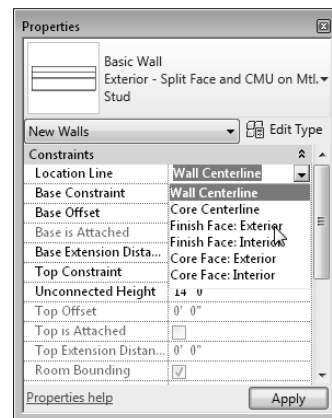

Figure 3-38 Selecting the **Finish Face : Exterior** option for the **Location Line** parameter
- Change the **Location Line** parameter to **Finish Face: Exterior**, refer to Figure 3-38.
- Click in the value field of the **Location Line** parameter and select the **Finish Face : Exterior** option from the drop-down list displayed, as shown in Figure 3-38. Choose the **Apply** button to accept the specified values and close the dialog box to return to the interface screen.